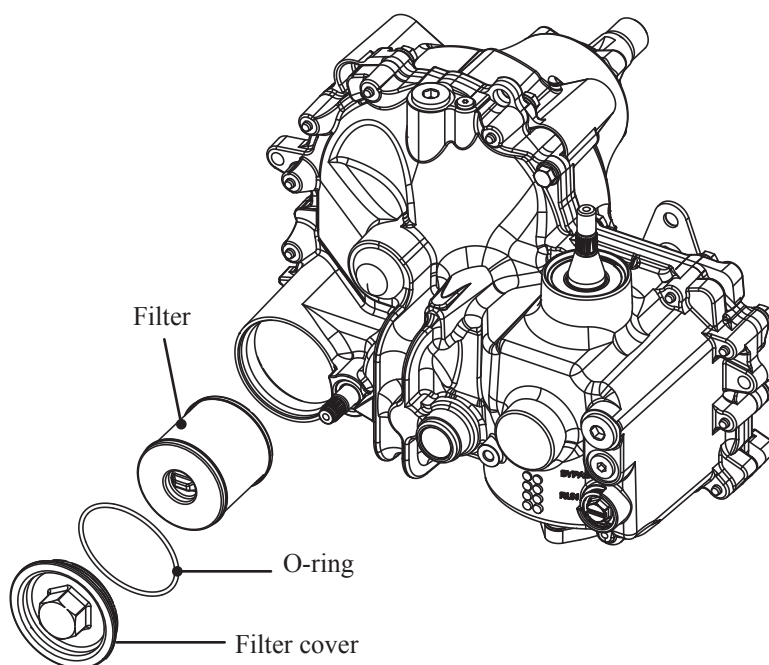

Figure 3a, Filter Components
3. Install a new filter (Hydro-Gear part number 71943). Install a new O-ring onto the filter cover and install the filter cover. See Figure 3a. See page 15 for torque specifications.